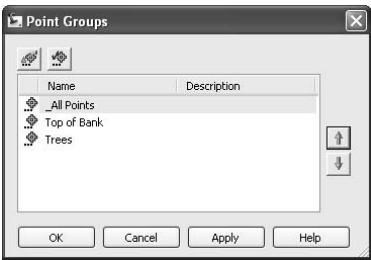

Figure 5.12
5. Use the up arrow to move the \_All Points group to the top of the list that appears in the Point Groups dialog, as shown in Figure 5.12. Click OK. All of the points in the drawing become invisible.